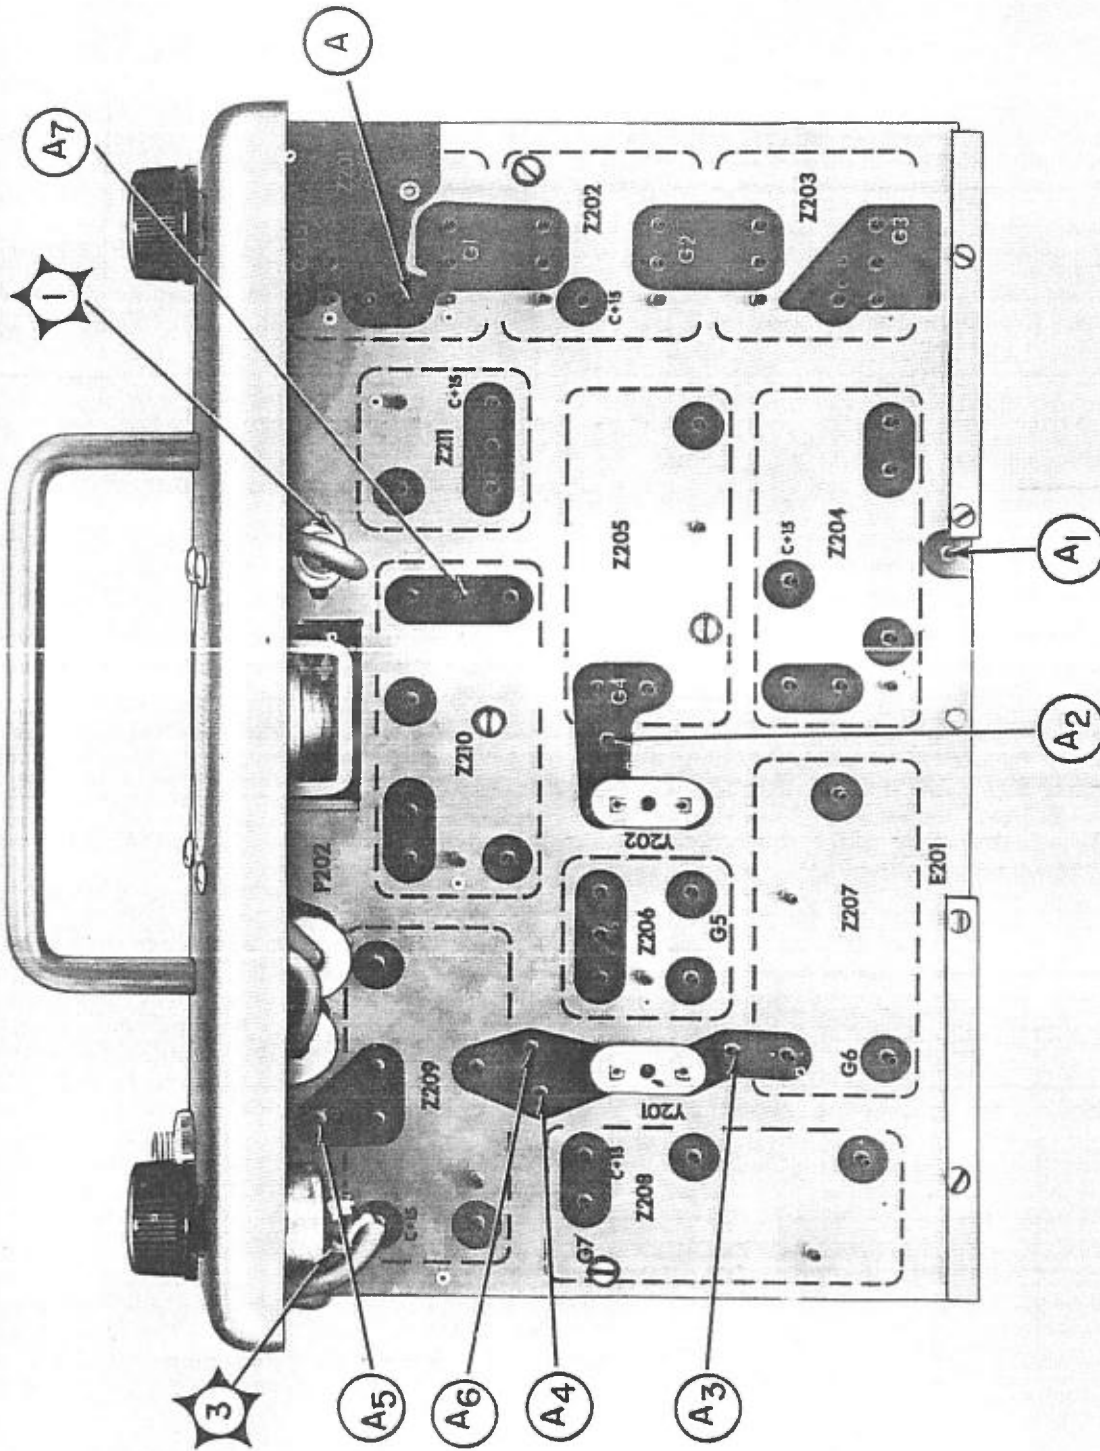

Figure 5-1. Receiver Printed Circuit Board
b. DC POWER SUPPLY VOLTAGES.-The positive DC voltage supplied to the plug-in assemblies is screened on the printed circuit board adjacent to the applicable pin. (See figures 5-1 and 5-2.) The +1.5
e. ALIGNMENT PROCEDURE.-The step-by-step alignment procedure is given in Table 6-2. Keep test leads as short as possible and provide good RF grounds for all test equipment. Check and calibrate test equipment frequently. Unless otherwise specified, use only as much signal generator output voltage as required for a good readable indication on a low meter range. Location of assemblies and test points may be found on figures 5-1 and 5-3.